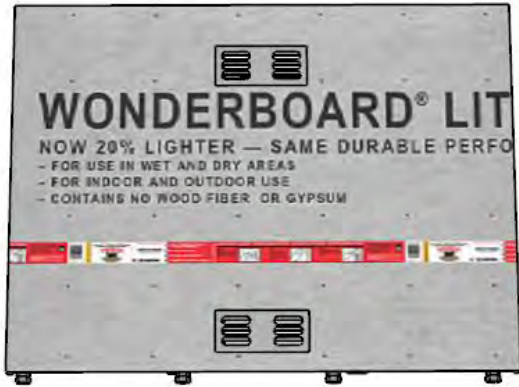

Figure 16
- Depending on which option was determined to be the best for your unique design, you will have venting panels either on the back side of the rear panel as shown in figure 16 or either the end panels or in rare instances the front panel